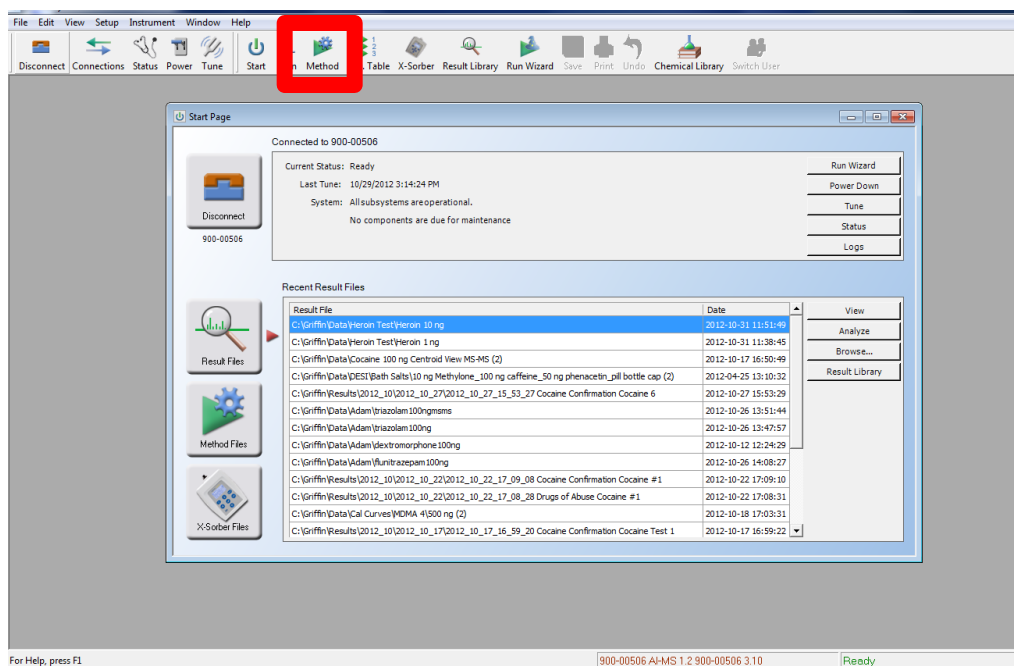

Figure 4.4 – Opening a method
4. Open a new method by clicking the “Method” button on the top toolbar (Figure 4.4).